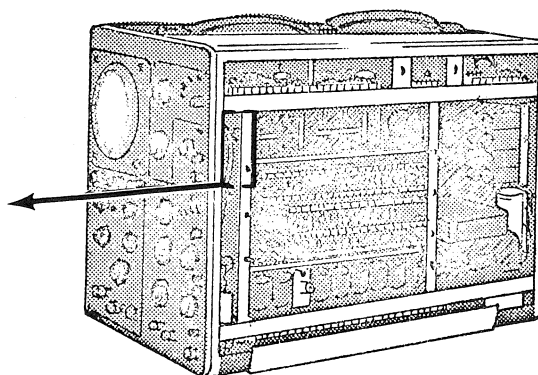

Figure 136
2. Set the HORIZONTAL DISPLAY to EXT X10 and the AMPLITUDE CALIBRATOR to 5v. Adjust the X10 compensator (C503C - see Fig. 136) for a finely defined dot at the right edge of the cal signal. (See Fig. 137)